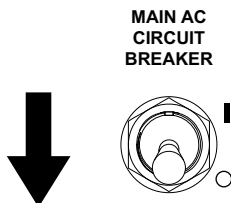

Figure 3-35. Main AC Circuit Breaker OFF (O)
- See **Figure 3-35**. Switch main AC circuit breaker to OFF (O).